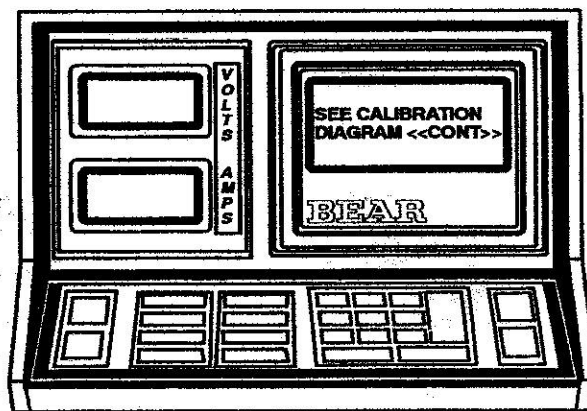

Figure 25
- C. Display reads "SEE CALIBRATION DIAGRAM" (see Figure 25). The calibration diagram is on the tester housing. The same diagram is shown on this page. Connect all the test leads as shown in the diagram (use a good, fully-charged 12-volt automobile battery):